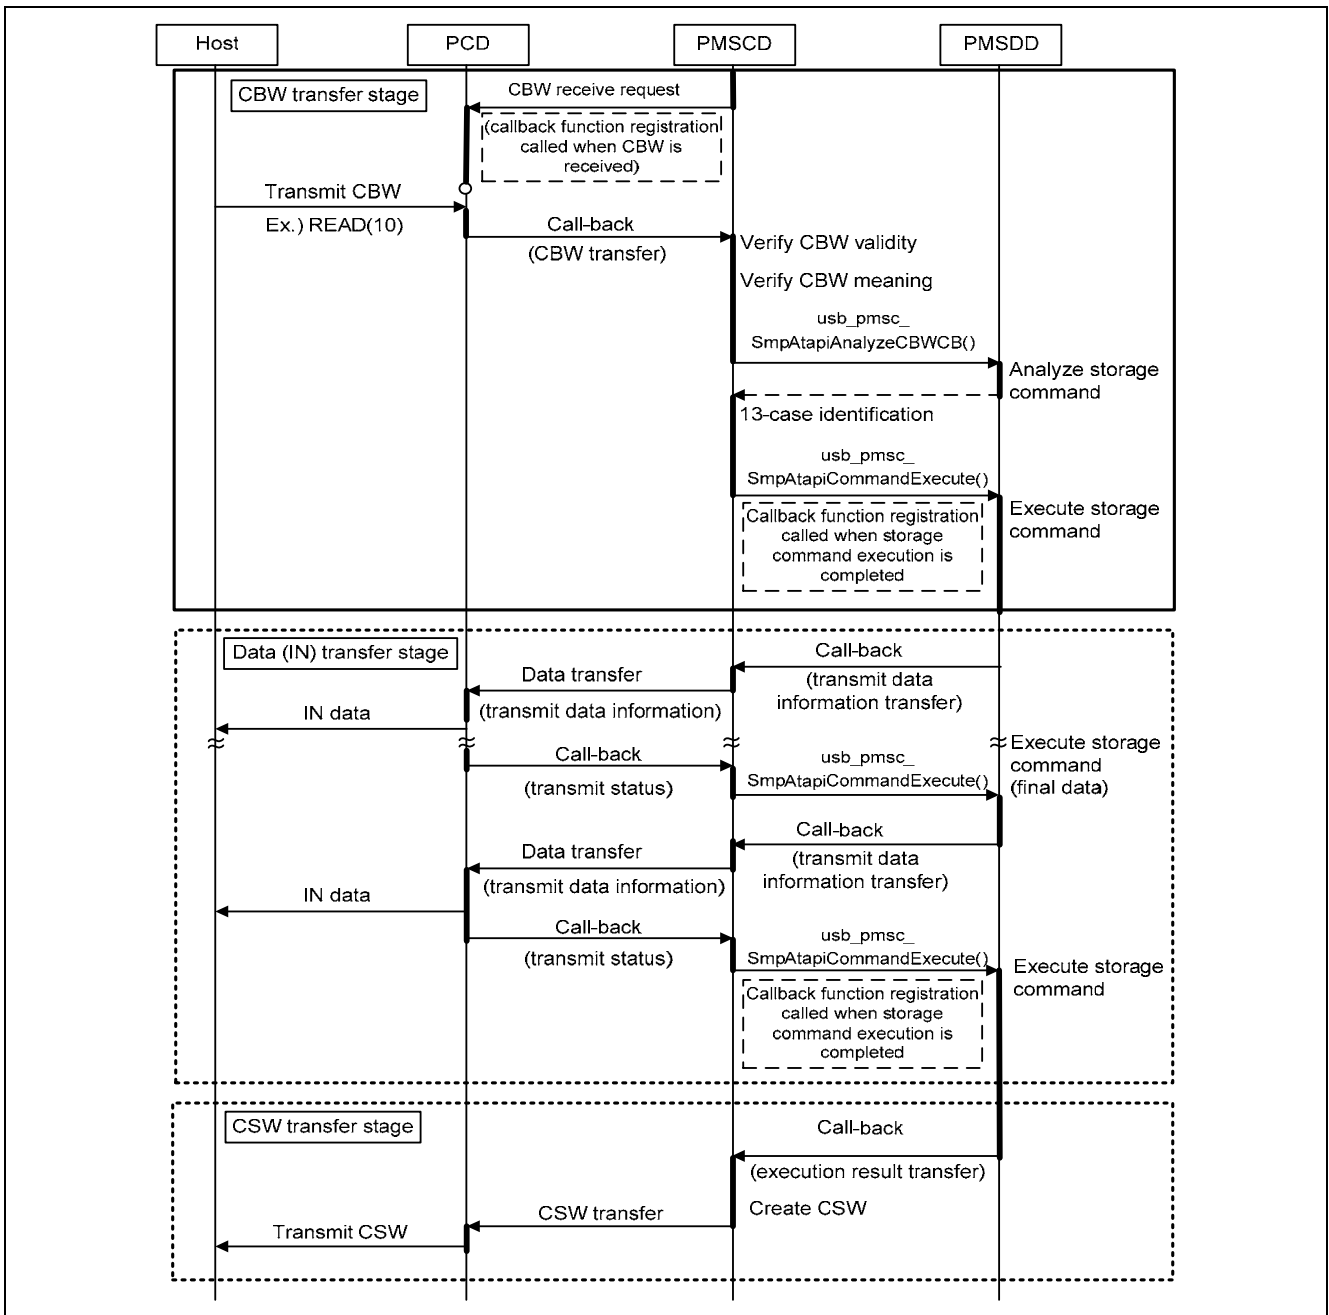

Figure 3.3 Sequence of Storage Command for Transmit (IN) Data
Figure 3.3 shows the sequence of storage command when there is transmit (IN) data from the peripheral side. In the CBW transfer stage, PMSCD executes CBW receive request to PCD, when PCD receives CBW, PCD executes callback function set up at the time of a CBW receive request. In the CBW transfer stage PMSCD verifies the validity of the CBW and transfers the storage command (CBWCB) to PMSDD when callback receives. PMSDD checks the data transmit command, and returns the result to PMSCD. PMSCD then compares the analysis result from PMSDD with the information contained in the CBW and sends a storage command execution request to PMSDD. Based on the execution result, PMSCD notifies PCD of the data storage area and data size, and data communication with the host takes place. When it receives transmit end notification from PCD, PMSCD once again sends a common continuation request to PMSDD, and data transmission is repeated. When it receives a command processing end result from PMSDD, PMSCD creates a command status wrapper (CSW) and transmits it to the host via PCD.